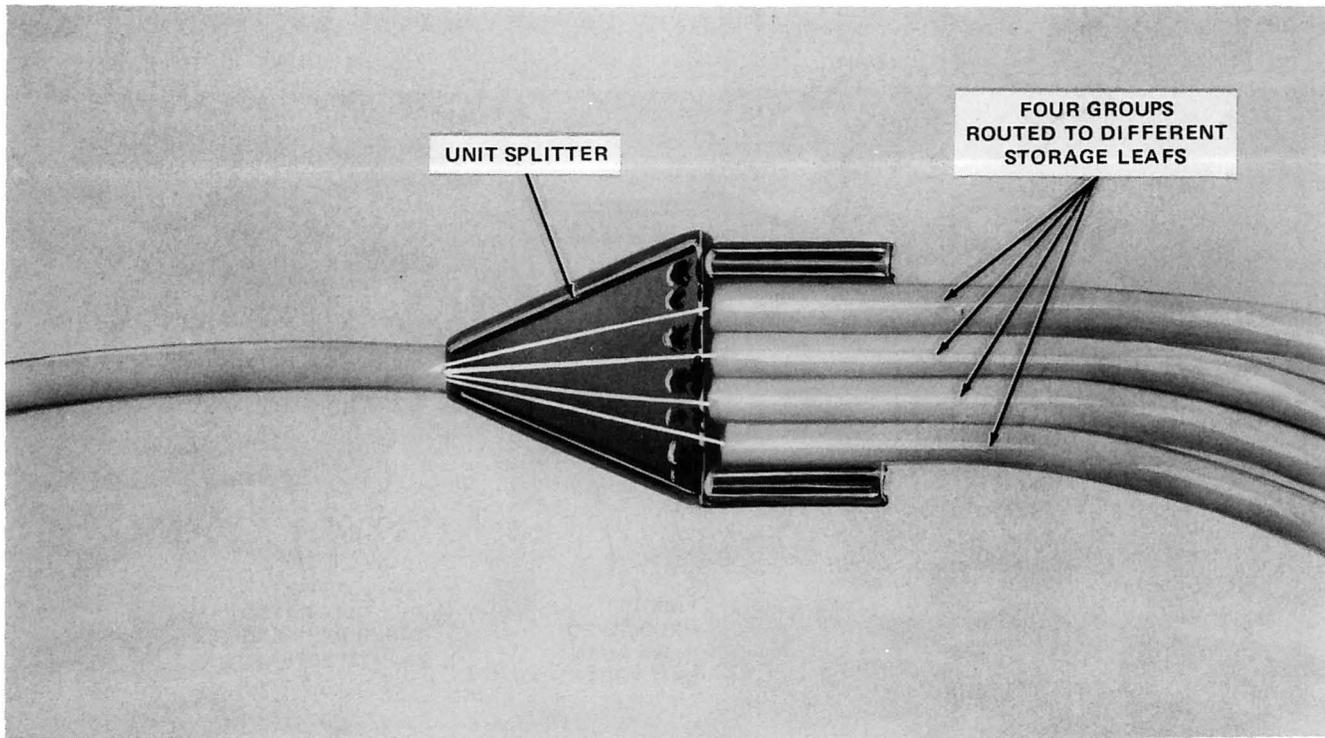

Fig. 59—Fibers Separated Into Four Groups (Six Groups Maximum)
8.07 Fibers separated into four groups and routed to the different storage leafs are shown in Fig. 59. One of the four groups contains the relocated fiber(s).